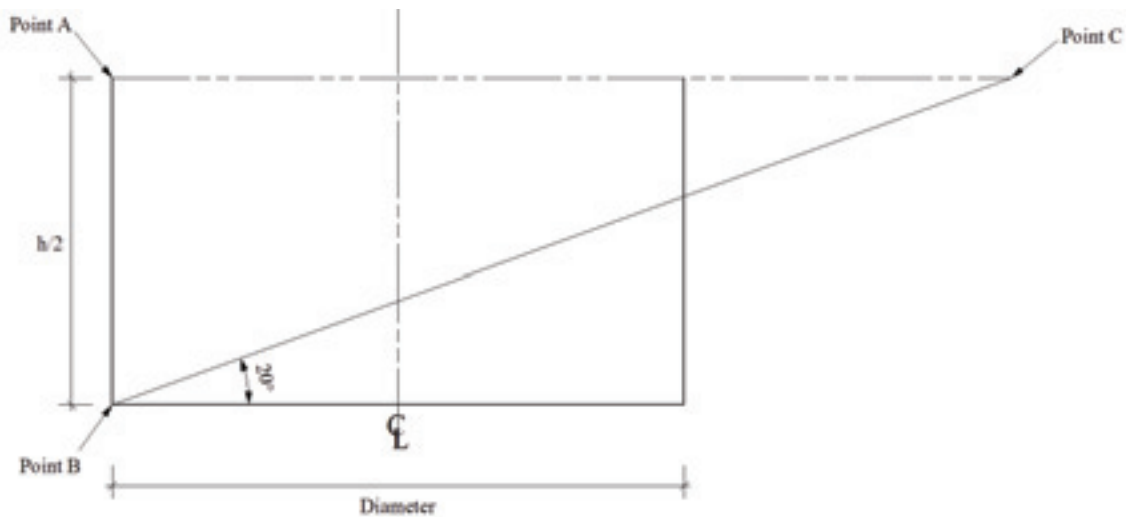

Fig. 79: Tank shape, bottom — Step 2
- Draw a line with an angle of 20° from the lower left hand corner of the tank (Point B) and extend it until it crosses the line just drawn at the tank midpoint. Label the intersection of these two lines as Point C (figure 79).